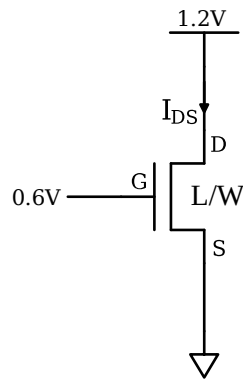

Figure 2.1
- d.** What is the λ (the channel-length modulation parameter) for the NMOS in Figure 2.1?